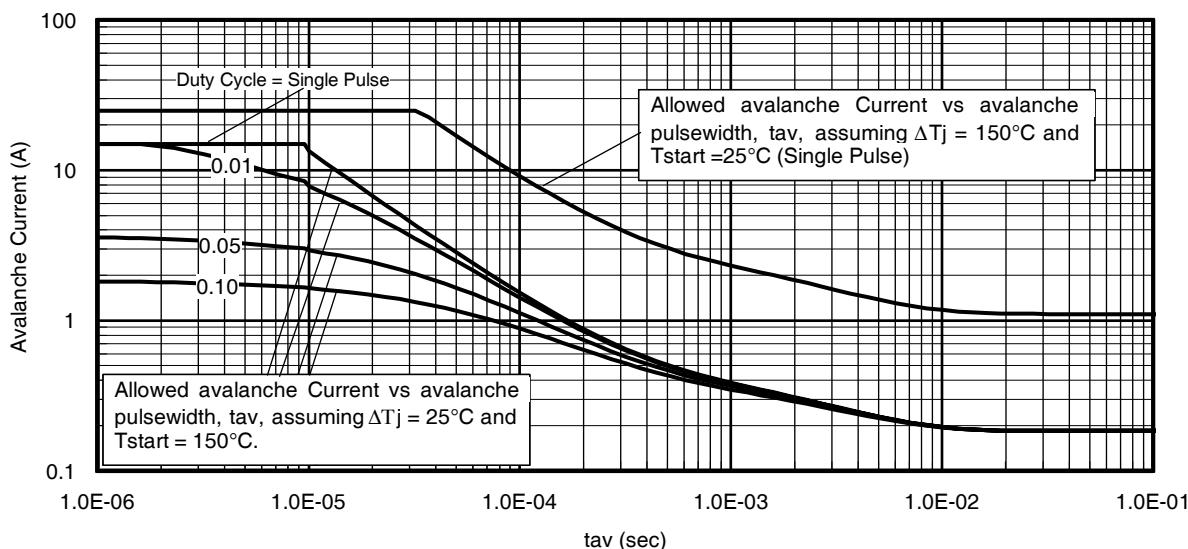

Fig 14. Typical Avalanche Current Vs.Pulsewidth
- ① Repetitive rating; pulse width limited by max. junction temperature.
② Starting  $T_J = 25^\circ\text{C}$ ,  $L = 1.00\text{mH}$ ,  $R_G = 25\Omega$ ,  $I_{\text{AS}} = 15\text{A}$ .
③ Pulse width  $\leq 400\mu\text{s}$ ; duty cycle  $\leq 2\%$ .
④  $R_\theta$  is measured at  $T_J$  of approximately  $90^\circ\text{C}$ .
⑤ Limited by  $T_{j\text{max}}$ . See Figs. 14, 15, 17a, 17b for repetitive avalanche information
Notes on Repetitive Avalanche Curves , Figures 14, 15:
7.  $\Delta T$  = Allowable rise in junction temperature, not to exceed  $T_{jmax}$  (assumed as  $25^\circ\text{C}$  in Figure 14, 15).